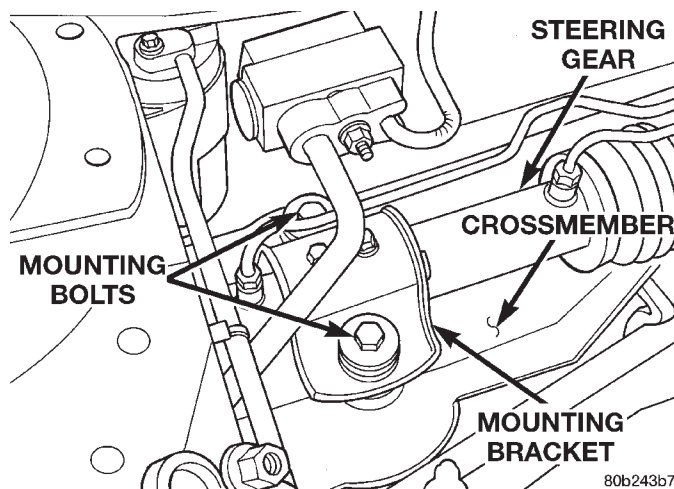
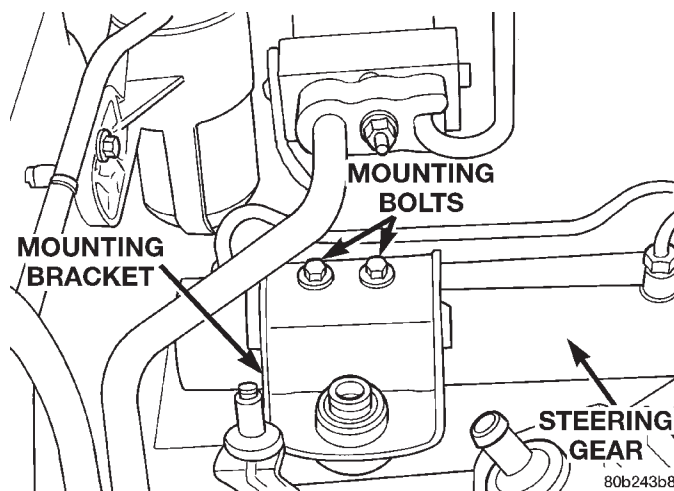

Fig. 15 Steering Gear Attachment To Crossmember (Right Side)
Fig. 16 Steering Gear Mounting Bracket
(20) Remove the 2 bolts attaching the steering gear's right side mounting bracket (Fig. 15) to the crossmember.
NOTE: It may be necessary to loosen the 2 mounting bolts (Fig. 16) attaching the right mounting bracket to the steering gear in order to clear the air conditioning lines.
(11) Install the bolts mounting the right side mounting bracket for the steering gear to the crossmember (Fig. 15). Tighten the mounting bolts to a torque of 58 N·m (43 ft. lbs.).
(12) Tighten the bolts mounting the left side of the steering gear to the crossmember to a torque of 58 N·m (43 ft. lbs.).
(13) If previously loosened, tighten the bolts mounting the steering gear mounting bracket to the right side of the steering gear (Fig. 16) to a torque of 37 N·m (27 ft. lbs.).